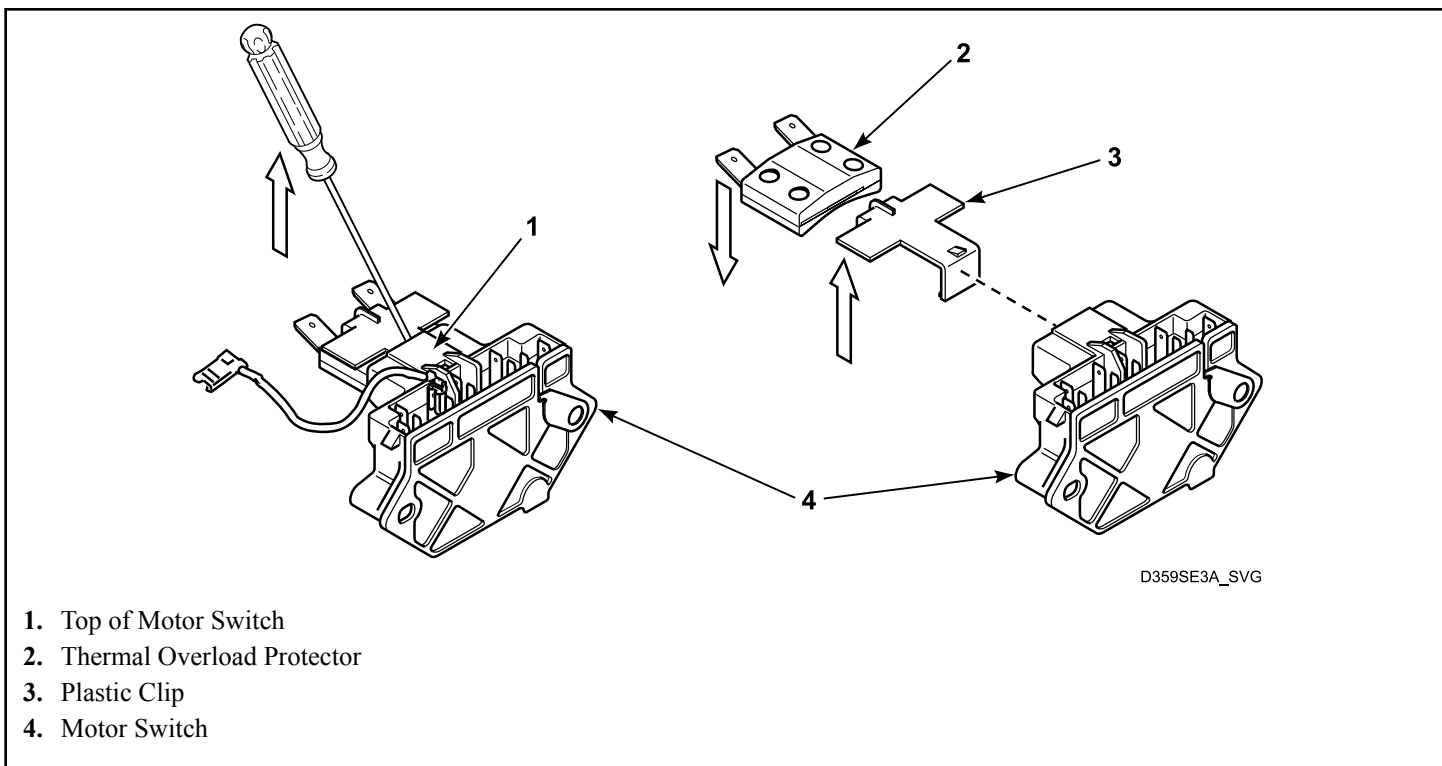

Figure 14
- b. **Motor with Switch on Pulley End.** Press the tip of a small bladed screwdriver into the slot located between top of motor switch and plastic clip. Lift up on handle of screwdriver until both clip and thermal overload protector detach from motor switch. Refer to *Figure 14*.